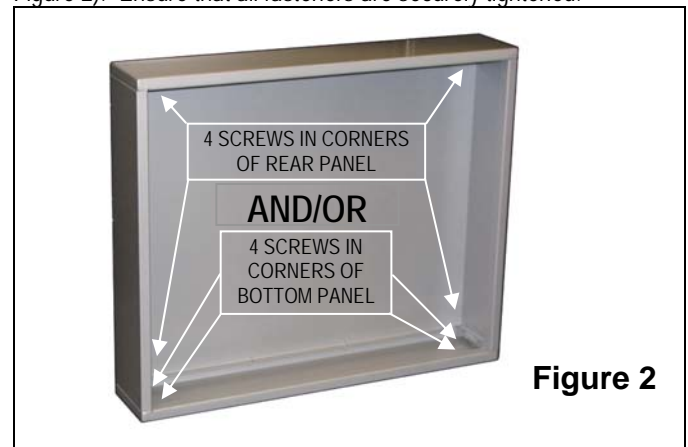

Figure 2
It is important for safety reasons to use at least four (4) fasteners and place one of them in each of the four (4) corners of the mounting surface (either on the rear panel or the bottom panel or both - see Figure 2). Ensure that all fasteners are securely tightened.